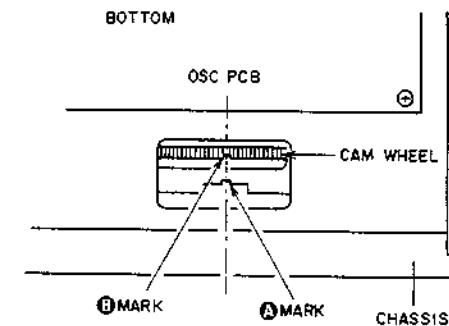

Fig. 4-2
- b. Adjust VR1 slightly so that the center of marker (B) coincides with the center of marker (A) in the STOP mode as shown on Fig. 4-2. (The marker (A) on the CAM WHEEL can be seen clearly by lighting it from the back.)